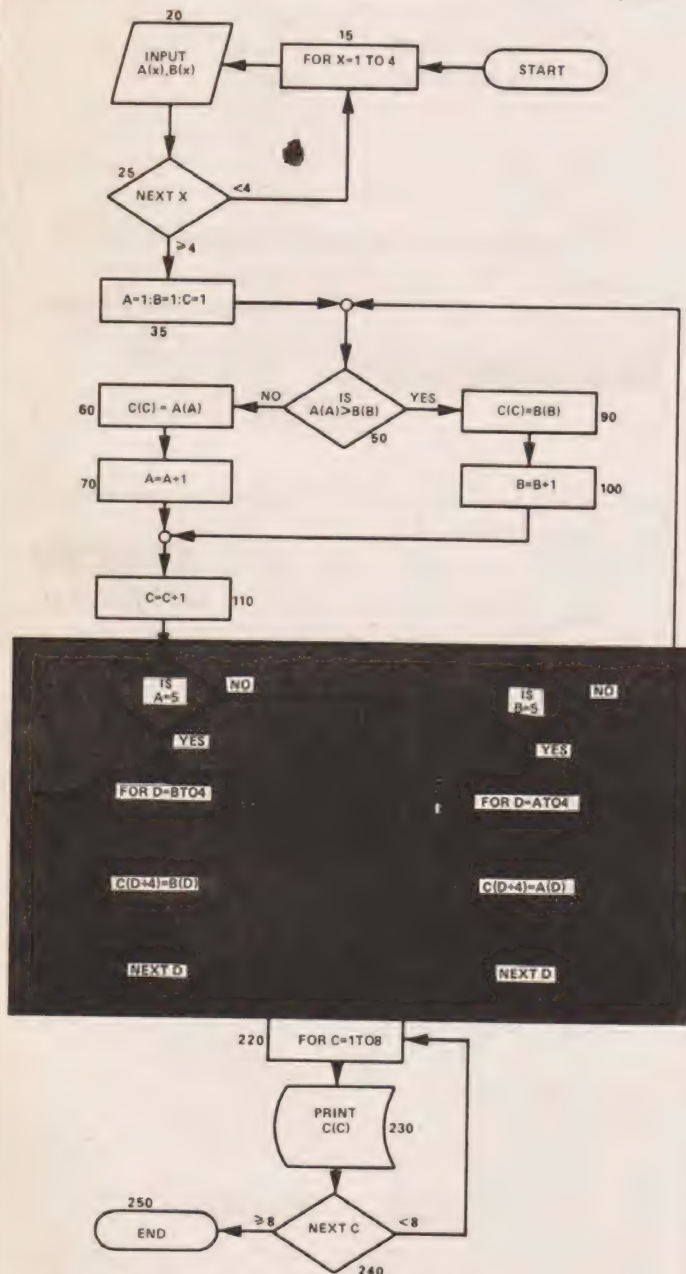

Fig.1. The flowchart for last month's problem, the shaded area represents lines 120 to 210.
You may remember that the program was to take two lists of numbers, A(X) and B(X), each containing 4 items in ascending numerical order and produce from these a single list, C(X), of 8 items which was to have been the result of merging the two lists together in such a way that the resulting list was also in ascending order. A simple algorithm was given to solve the problem and you were expected to dry run the program listing produced from this algorithm. The best way to try to understand the operation of a program like this is to draw a near flowchart. (See Fig.1).
As far as possible, the flowchart boxes have been numbered to correspond with the relevant program line numbers given last month. The shaded area in Fig.1 corresponds to lines 120-210 of the program. The flowchart boxes labelled 15, 20 & 25 allow you to input the two number lists A(X) and B(X). Note that these must be in ascending numerical order. Flowchart box 35 sets up initial values for A, B and C which will be used as pointers in lists A(X), B(X) and C(X) respectively. Box 50 now compares the next two items in lists A(X) and B(X) using pointers A and B to see which of A(A) and B(B) is larger (to start off with, both A and B have the value 1 so we are comparing A(1) with B(1)). If A(A) is larger than B(B) then we branch to box 90 and put the contents of B(B) into C(C). So here we make C(1) equal to B(1) (because B(1) was the smaller of A(1) or B(1)) and then we increment both pointers B and C by 1. A and B are now tested to see if either of them has reached 5. In this case they have not and so we branch back to box 50 to compare A(A) with the new value of B(B). (Here A(1) and B(2)). We will suppose this time that A(1) is smaller than B(2) (though, of course, this need not be the case) so we branch to box 60 and put A(A) into C(C) (Here A(1) into C(2)). We then execute boxes 70 and 110 thus incrementing A and C by one (so now A=2, B=2, C=3). A and B are now both tested again to see if either has reached 5 and as they have not, we branch back to box 50 to compare A(2) and B(2) etc. You should see that this process is repeated until one of the lists A(X) or B(X) has been exhausted so that either A or B has the value 5. When this occurs, we encounter the programs line 120-210 mentioned last month (shaded area of flowchart Fig.1) and the process changes slightly. In box 20, originally, we only entered 4 items in each list so that when A or B equals 5 (say A) we will try to compare the next item in list B with the non-existent value A(5) unless something happens to change the flow of the program. This is in fact done. When A=5 any items that are left in list B must all be larger than any of the items that were in list A and they must also be in ascending numerical order so that all that is required to complete list C is to transfer the remaining items in list B directly onto the end of list C without any comparisons being necessary. This is done in boxes 150-170 (If B=5 and A=5 then the same argument applies as before and the transfer of the last items of list A to the end of list C is dealt with by flowchart boxes 190-210).